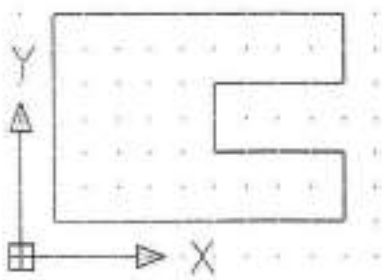

Figure 1 PLAN VIEW
5. Begin your drawing with the **LINE** Command, and construct the figure 1. Do not be concerned about the exact sizes. Keep your drawing proportional to one shown in Figure 1.